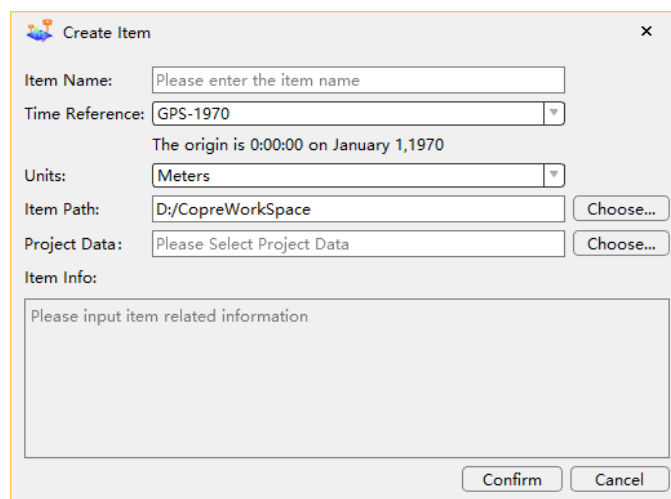

Figure 3
- The Create Item dialog box will pop up as shown in figure 3